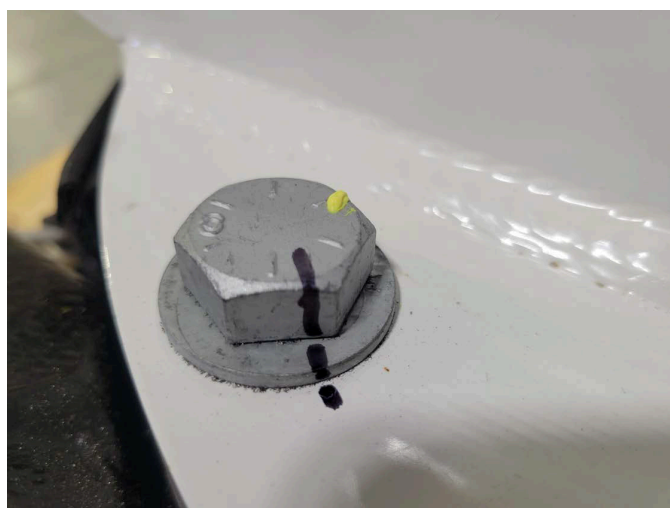

Figure 3-7. Marking Bolt Heads Prior to Torque Check
- a. Mark the position of all bolt heads relative to the frame or pedestal using a permanent marker as shown in Figure 3-7.